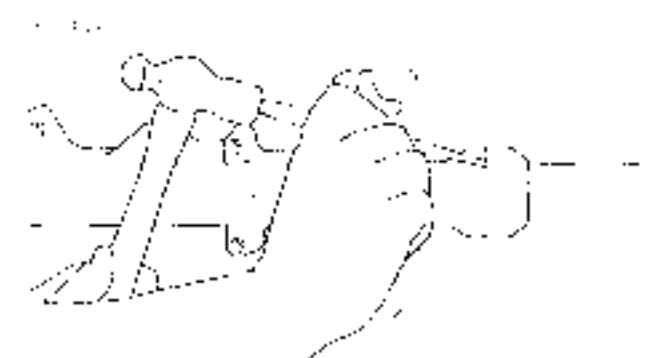

Figure 2-93. Fork Cover and Seal
11. See Figure 2-93. Remove the cover from the slider. Remove seal and spacer ring.